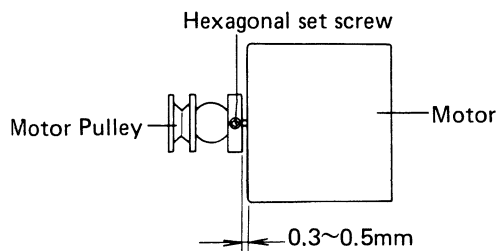

Fig. 3-6 Motor Pulley Attachment
2. When attaching the motor pulley to the motor shaft, ensure that there is a gap of about 0.3 to 0.5mm between motor and pulley (use spacers if necessary). Tighten the hexagonal setscrew securely, and apply screw-lock (see Fig. 3-6).